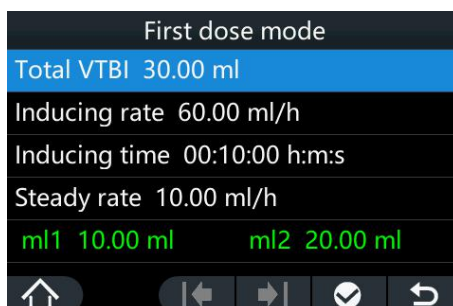

Figure 5-12
1. Select menu “☰” option → “Mode” → “▶|” → “First dose mode” to enter the interface as shown in figure 5-12;